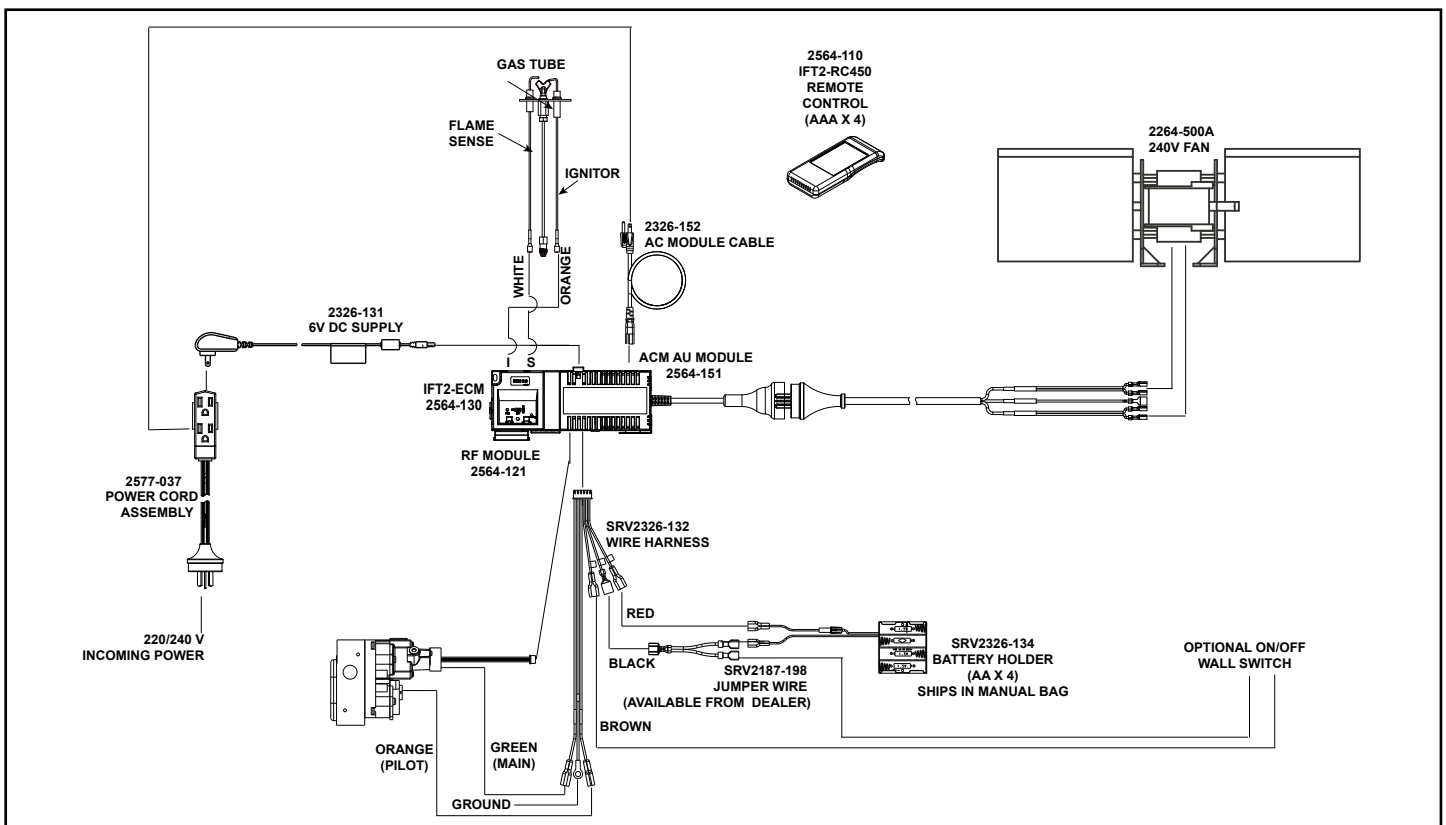

Figure 8.3 IntelliFire Touch Wiring Diagram with Remote
- Refer to Figure 8.3, IFT Wiring Diagram.